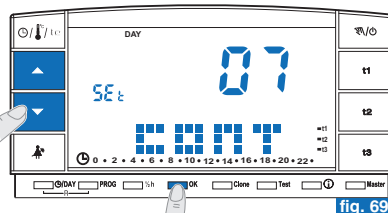
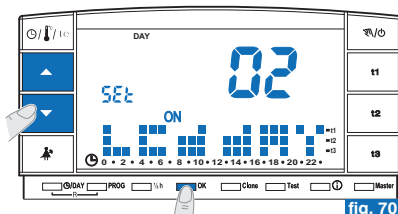
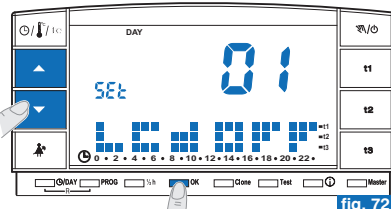

fig. 69
fig. 70
fig. 72
- Change the selected contrast value using **▲▼**. The value changes by 1 point every time the key is pressed (example in fig. 69).
- From the display contrast screen (example in fig. 69) press ▲▼ to view level "02" **LCd dAY** (example in fig. 70).
- From the display contrast screen (example in fig. 69) press ▲▼ view level "01" **LCd OFF** (example in fig. 72).